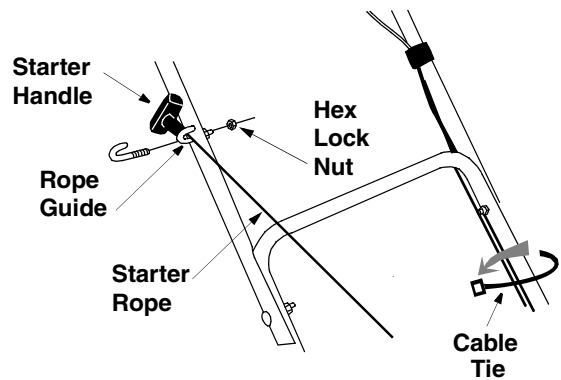

Figure 5
4. Fasten the cable to the left lower handle with the cable tie. Pull the cable tie tight and trim off the excess. See Figure 5.
3. Place the rope guide around the starter handle, so the opening in the rope guide is toward the front of the mower. Insert the rope guide into the right side of the handle, and secure with hex locknut. See Figure 5.